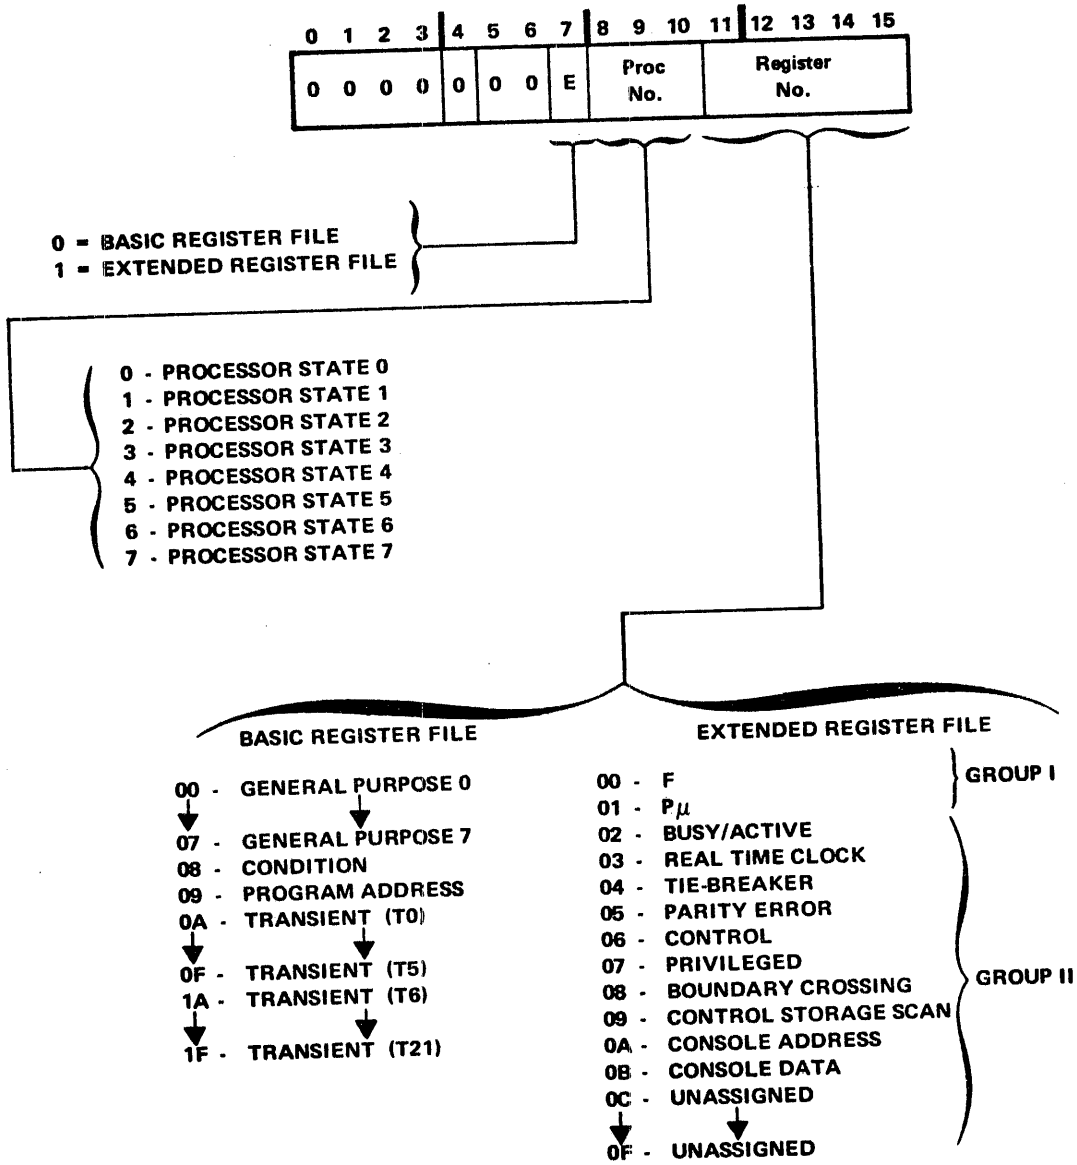

Figure 3-1. Register File and Associated Register Addresses
2. Set processor state number and number of the register in basic file or extended file (Group I or II*) into the CONSOLE ADDRESS REGISTER SELECT pushbuttons. Addresses of basic file and extended file, Groups I and II are listed in Figure 3-1.
2. Set processor state number and number of the register in basic file or extended file (Group I or II*) via the CONSOLE ADDRESS REGISTER DISPLAY pushbuttons. Addresses of basic file and extended file, Groups I and II, are listed in Figure 3-1.